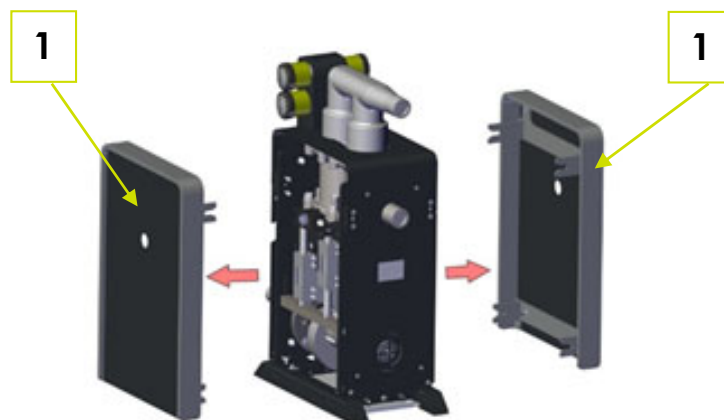

Fig. 4-3: Dismounting the side Cover
3. Take off the side Cove relements (1) in the direction of the arrow (Fig. 4-3: Dismounting the side Cover).